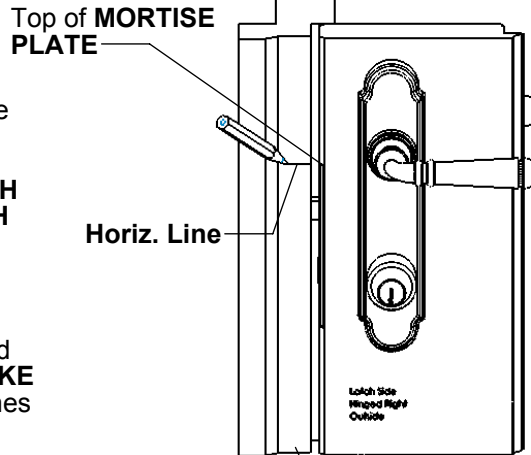

Figure 5
Step 8. Loosely tighten the (2) **#8-32 PHIL OVAL MS screws** attaching the **INSIDE & OUTSIDE LATCH ASSEMBLIES**.
Step 9. Attach the **MORTISE PLATE** to the edge of the door with (3) **#6 X 1" SMS screws**. Loosely tighten the (3) screws in this step. Note: The flat surfaces on the livebolt and deadbolt housing flanges must be in the counter bores in the **MORTISE PLATE**.
Step 10. Cycle the **LIVEBOLT ASSEMBLY** with the lever handles and the **DEADBOLT ASSEMBLY** with the thumb turn and the **KEY** to check for proper function. Move the **INSIDE & OUTSIDE LATCH ASSEMBLIES** as needed and securely tighten the (2) **#8-32 PHIL OVAL MS screws**. Securely tighten the (3) **#6 X 1" SMS** in the **MORTISE PLATE** installed in step 9.
Step 11. Note: This step is performed standing outside the door with the door closed. Draw a horizontal line on the door frame aligned with the top of the **MORTISE PLATE**. This line will be used in Step 13 to locate top position of **LATCH STRIKE**. See Figure 5.